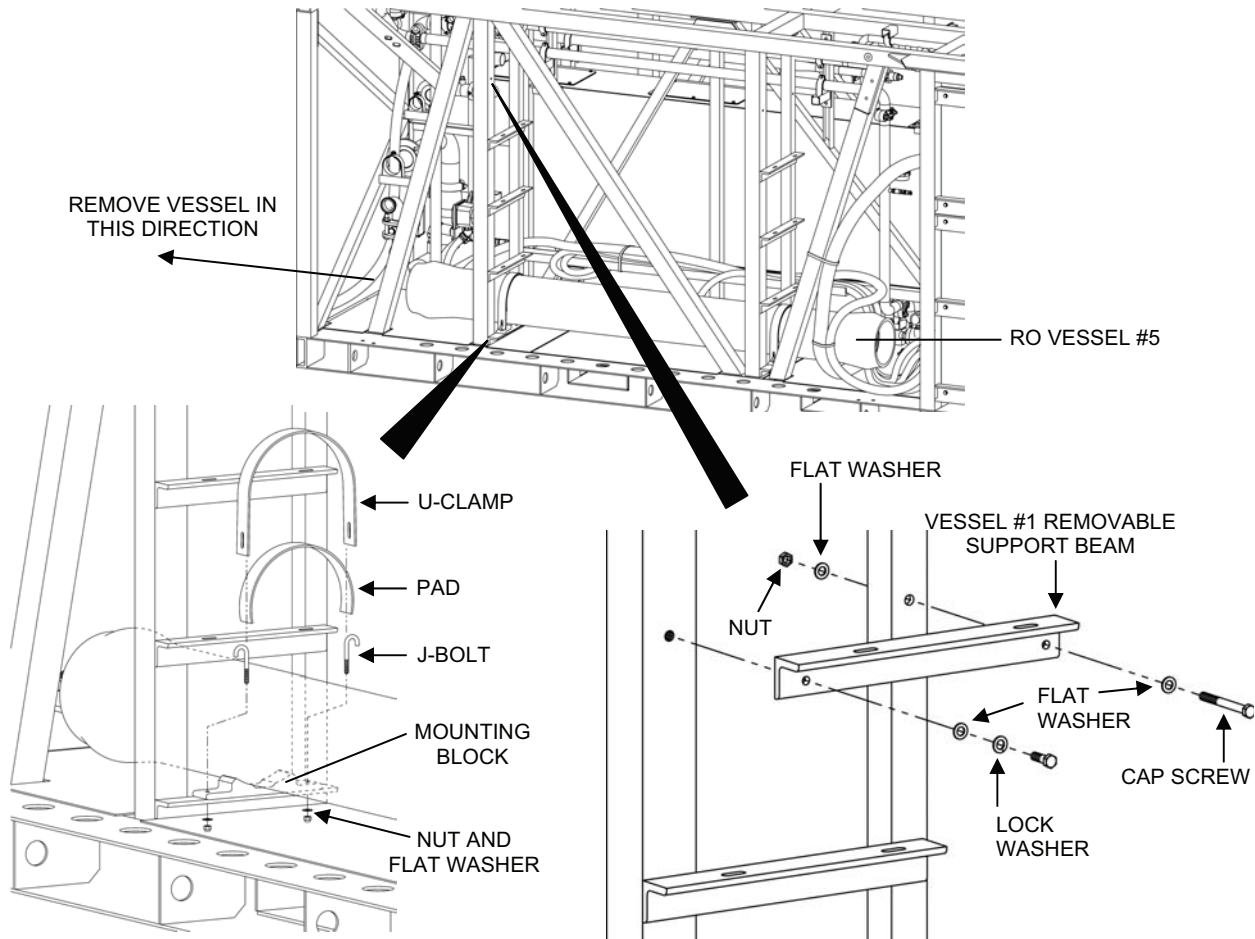

Figure 9. RO Vessel Replacement.
4. Remove RO vessel #2, 3, 4, or 5 as follows (see Figure 9):
5. Remove RO vessel #1 (the top RO vessel) as follows (see Figure 9):
6. Install new RO vessel #1 as follows (see Figure 9):
7. Install new RO vessel #5, 4, 3, or 2 as follows (see Figure 9):